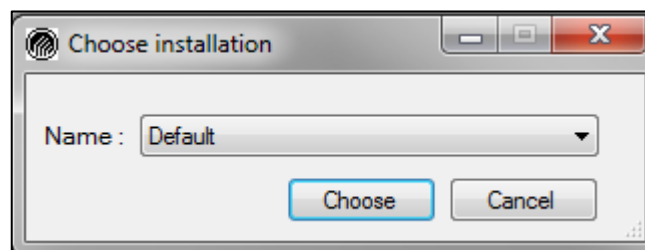

Figure 6: Window allowing the selection of an installation from the list of the created ones.
- **“Cancel”** button: to return to the *installation* that was already loaded on screen, without considering the *“Name”* that was just selected in the window on *Figure 6*.